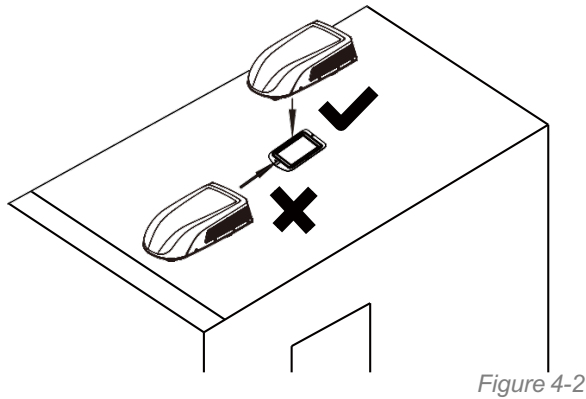

Figure 4-2
- Do not drag the outdoor unit. Otherwise, the seal may fall off (see Figure 4-2).